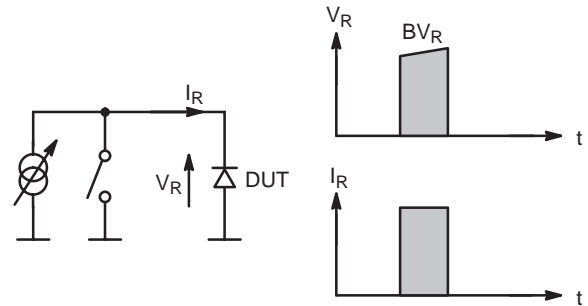

Figure 9. Constant Current Characterization Circuit.
Different test circuits similar to Figure 9 have been proposed by Gauen (1) and Pshaenich (2). Some unexpected failures in MOSFETs suggest that the DUT should always be referenced to ground. Unlike UFRs and SBRs, MOSFETs react differently whether they are tied to ground or floating around a fluctuating voltage. Many floating transistors fail at very low stress levels probably due to capacitive coupled currents that turn-on the internal parasitic transistor.
The test circuit shown in Figure 9 sets a constant avalanche current through the device until it fails, this duration can then be plotted for different current levels. This generates a graph similar to the UIS method, except that the current is constant instead of decreasing linearly.